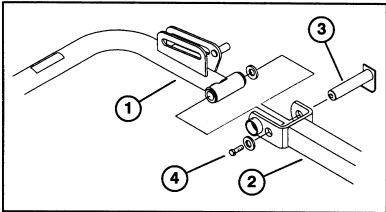

Figure 1
3. While supporting lift arm (so it does not drop) remove capscrew, flat washers and pivot pin securing lift arm to frame (Fig. 1). Discard capscrew, flat washers and pivot pin.